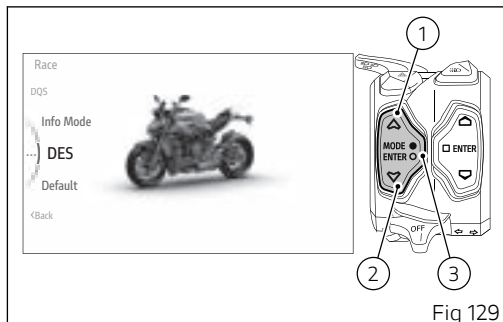

Fig 129
- From the Interactive Menu, use buttons (1) and (2) to select the item "Setting menu" and press ENTER (3).
- Select the "Riding Mode" item and press ENTER (3).
- Select the Riding Mode you wish to customise and press ENTER (3).
- Select the "DES" (Fig 129) item and press ENTER (3).
- from the Interactive Menu, use buttons (1) and (2) to select the item "Setting menu" and press ENTER (3).
- Select the "Modify Suspension" item (Fig 129) and press ENTER (3).
- Select "Custom Fixed Suspension" and press ENTER (3).
- Select "Custom Dynamic Suspension" and press ENTER (3).